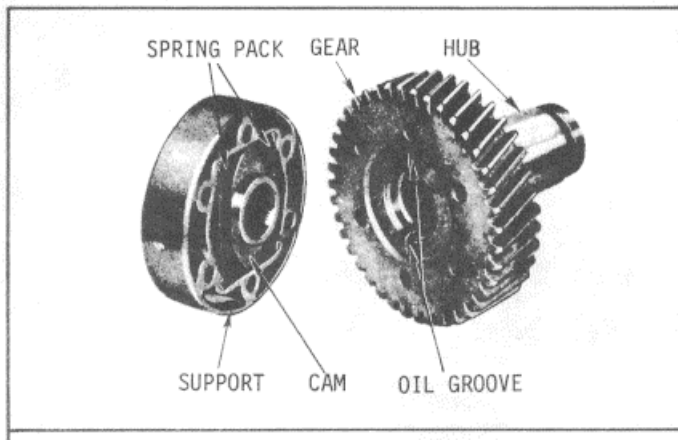

Fig. 7 Relation of Blower Drive Cam to Oil Grooves in Gear Hub
- (8) Place the coupling support against the drive gear with the blower drive shaft ring groove in the cam facing away from the drive gear. Then, place the drive coupling retainer (71) against the coupling support with the flared edge away from the support. Revolve the coupling assembly on the hub flange until the cam lobes are in line with the oil grooves in the gear hub (Fig. 7) to ensure proper lubrication.
- (9) Install the drive coupling bolts.